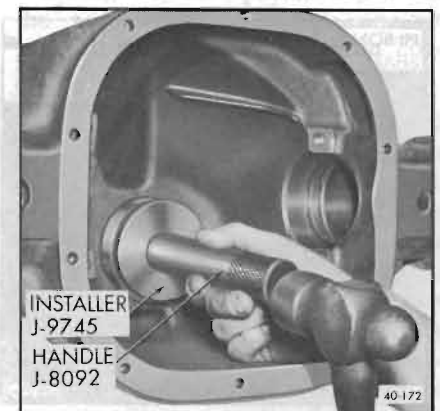

Figure 40-161—Installing Rear Pinion Bearing Outer Race
2. Drive rear pinion bearing outer race against shoulder in carrier using Replacer J-9745 with driver handle. See Figure 40-161.